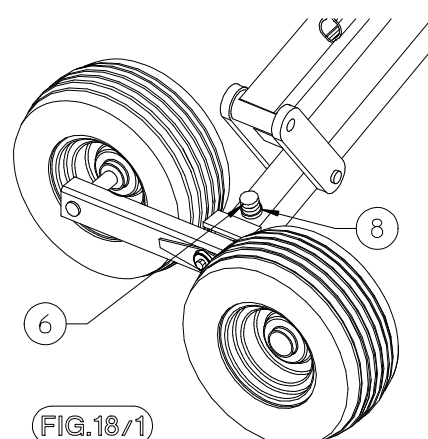

FIG.18/1
Before disconnecting the machine from the tractor, use the hydraulic system to lower the machine completely, then apply the brake and shut off the tractor. Dismount from the tractor and place the parking stand in the vertical position (pos. 2, Fig. 18). Turn the crank to raise the machine from the drawbar so that the hitch pin may be removed from the tractor. Disconnect the quick-release coupling (4). Disconnect the cardan shaft and lay it against the parking stand crank. The tractor may now be moved away.